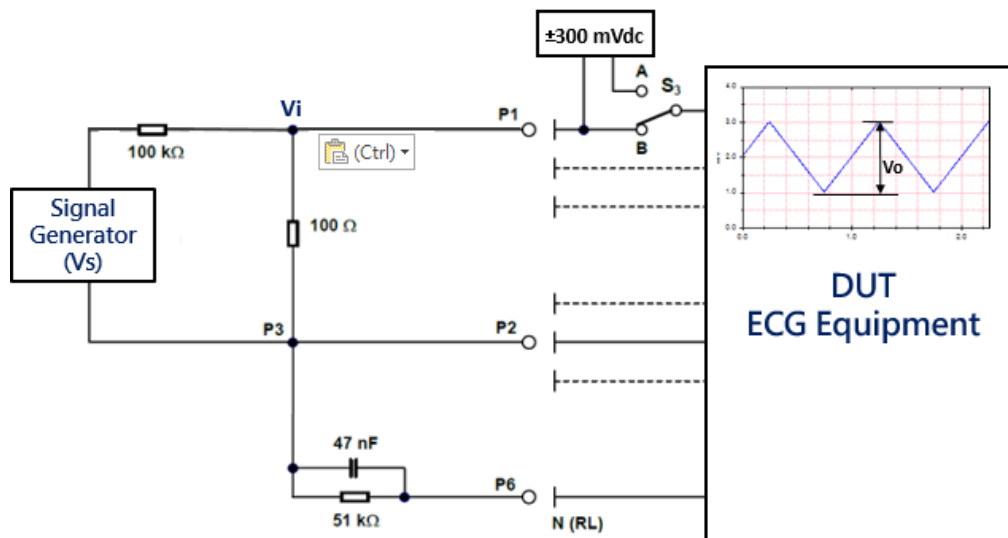

Figure 4, Test system diagram provided in various ECG equipment standards
These items used to test the amplitude performance of ECG equipment are covered in the three ECG standards. The spirit and purpose of the test are the same, but the test methods are quite different. Figure 4 is a system test chart in various standards, in which the peak-to-peak voltage  $V_s$  generated by the signal generator passes through a 1000 times voltage divider circuit and the voltage is attenuated by 1000 times, expressed in  $V_i$  in the figure. Therefore,  $V_i$  is the DUT input voltage,  $V_i$  connects to P1, and then the electrode wire to be tested of the ECG device is connected to point P1. The N (RL) electrode wire is connected to the negative terminal of the signal generator through a circuit (51k $\Omega$  in parallel with 47 nF) that simulates the electrode and the skin contact impedance.